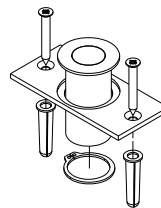

Fig. 3-3
5. Drill a  $\frac{3}{4}$ " diameter x  $1 \frac{3}{4}$ " deep hole into the floor where it is marked. If floor strike assemblies (Fig. 3-3) are required, the hole should be drilled  $1 \frac{3}{8}$ " x  $2 \frac{5}{16}$ " deep.